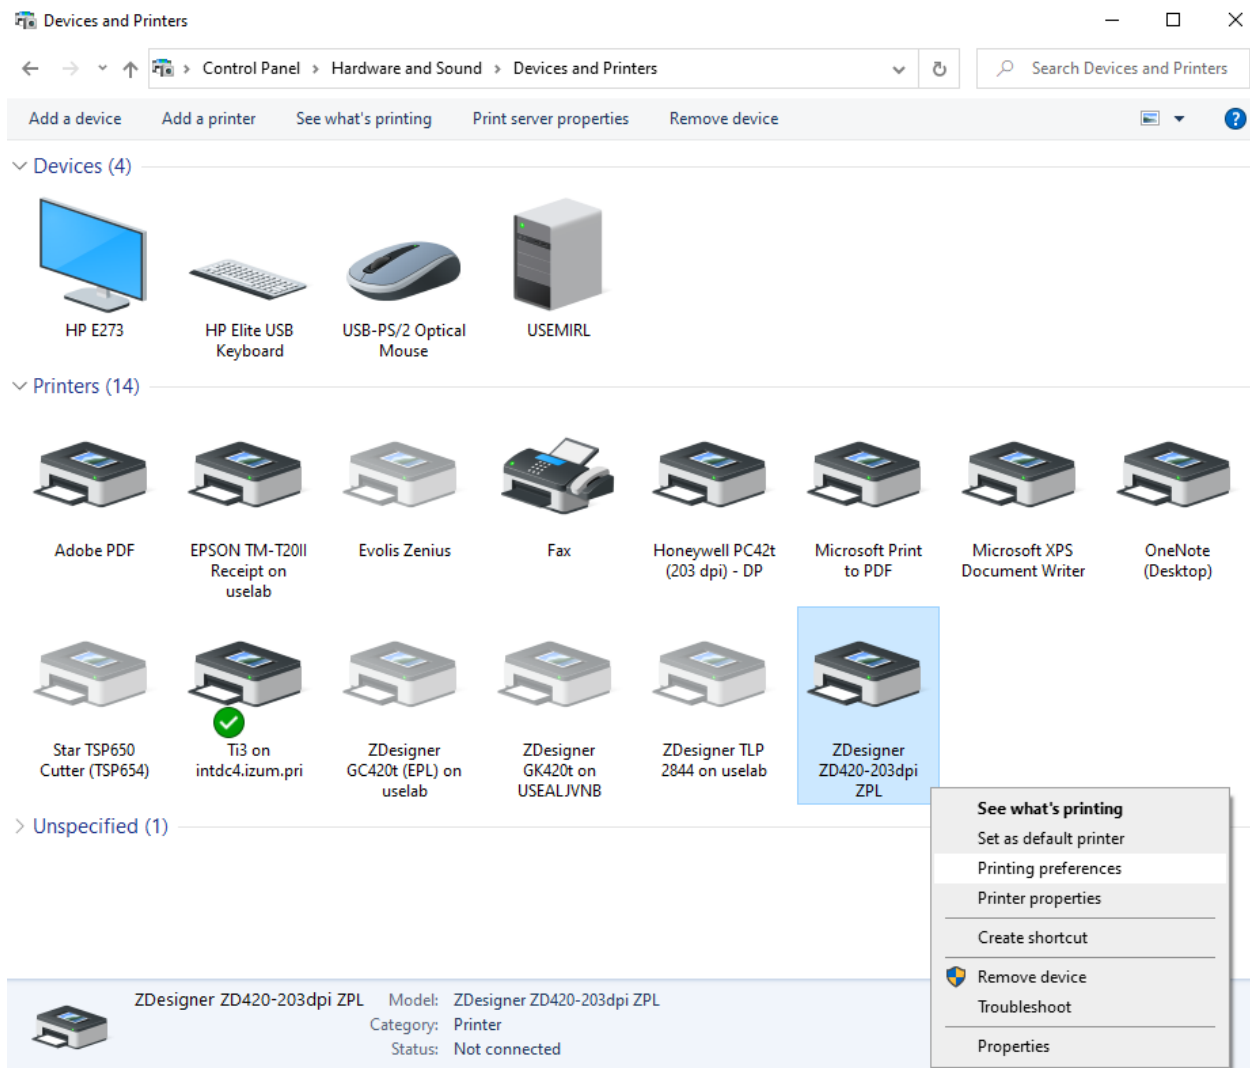

Figure 2: Control panel, devices and printers
- Figure 2: Control panel, devices and printers2
Once the driver is installed, the settings have to be adjusted before you start printing labels. This can be done in the **Control Panel**, where you select **Devices and Printers**. All the available printers will be shown on-screen. Select the *ZDesigner ZD420-203dpi ZPL* printer and right-click it. Select **Printing preferences** from the options (see Figure 2).